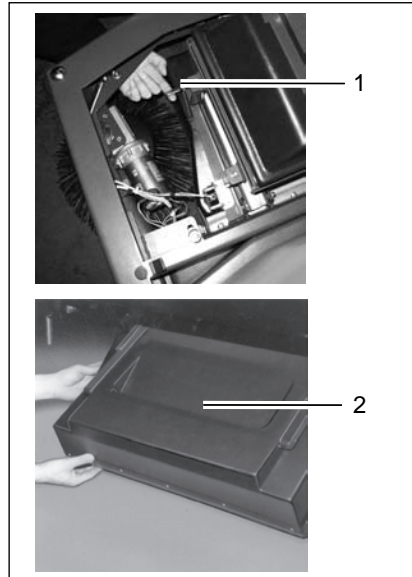

Fig. 38
(The top picture in Figure 38 illustrates the position of the left-hand lock when the front hood is open.)
1. When the front hood is closed, press the right and left locks (Fig. 38/1) of the dirt hopper (Fig. 38/2) up to release the lock. The dirt hopper pivots down.
2. Take hold of the dirt hopper (Fig. 38/2) in both hands using the grips located at the sides of the dirt hopper (Fig. 38/2).
3. Pull the dirt hopper (Fig. 38/2) to the front and out of the guide rails.
Empty the content of the dirt hopper (Fig. 38/2) in a waste container at regular intervals.
1. Take hold of the dirt hopper (Fig. 38/2) in both hands using the grips located at the sides of the dirt hopper (Fig. 38/2).
2. Fit the dirt hopper (Fig. 38/2) in the guide rails, slide in as far as possible and press the dirt hopper (Fig. 38/2) upwards until the lock audibly latches into place.
If the dirt hopper (Fig. 38/2) is not properly engaged, the "Dirt hopper and front flap indicator of the pre-sweep/vacuum unit" lamp (Fig. 21/3) lights up. The pre-sweep/vacuum unit does not work.
The filter system of the dust vacuum (use category "U") is located in the filter case above the dirt hopper (Fig. 38/2). The filter case is movable, the movement linked to that of the dirt hopper (Fig. 38/2) in order to be able to shake the filter element (panel air filter) when the agitating motor is switched on.